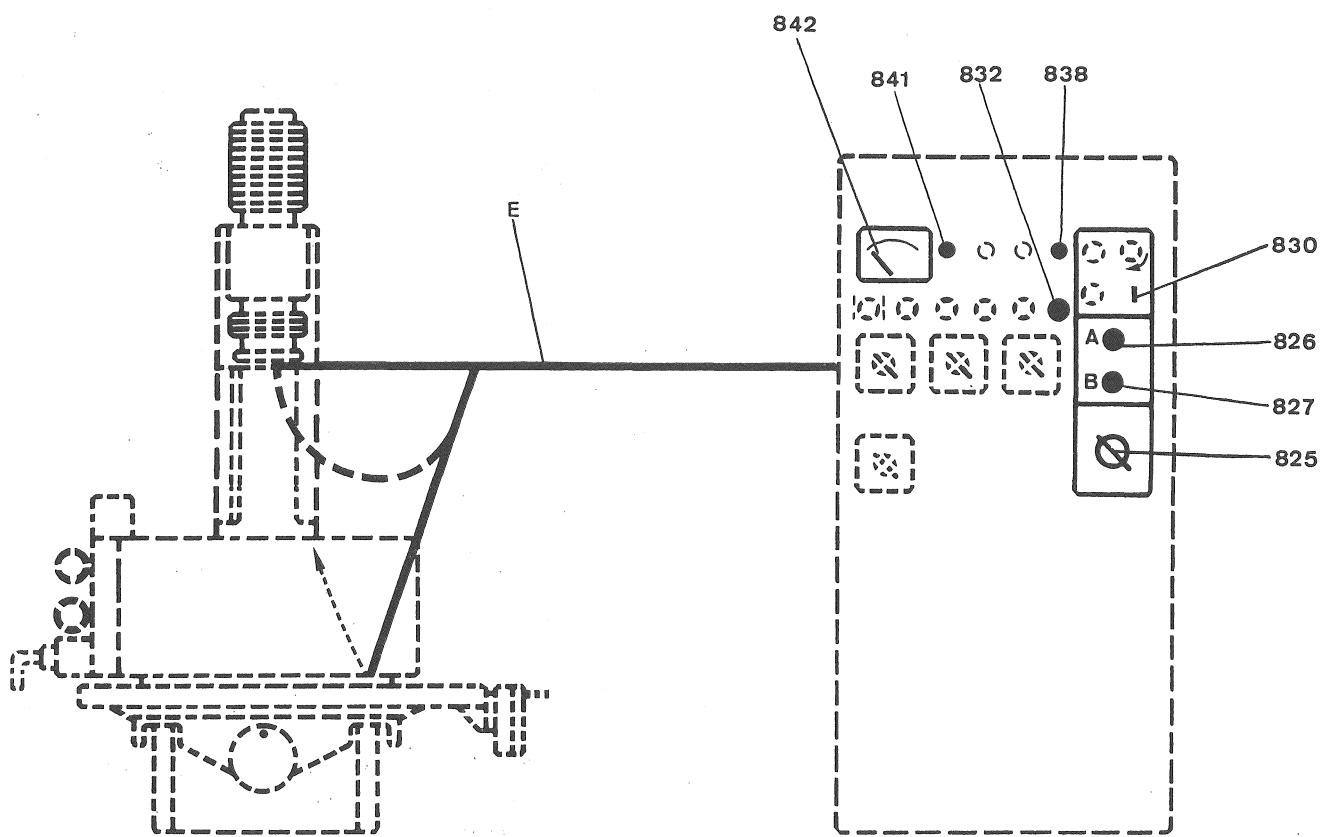

Fig 2
7.3.3 Checking of the generator (fig. 2)
- Set the power rating selector switch (825) to position :
- Selector switch B (827) to position 12
- Selector switch A (826) to position 6
- Set the pulsator switch (830) to position "0".
- Switch the machining current on by means of the green knob (832);